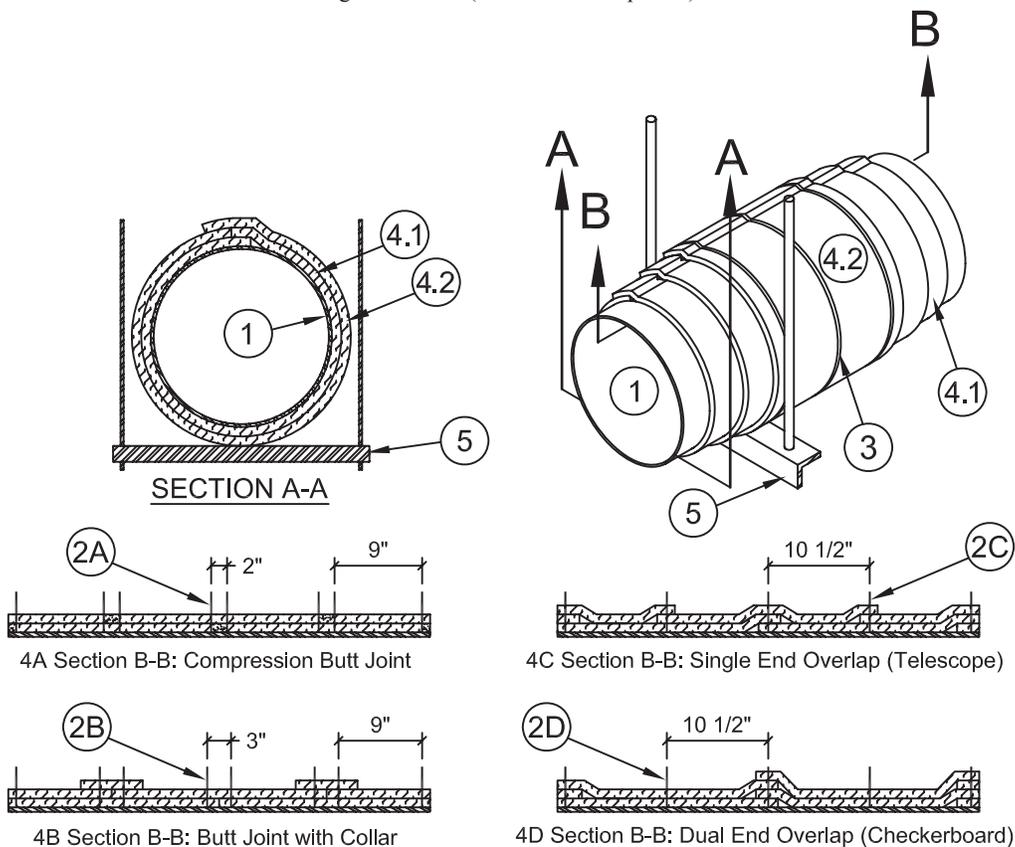

Figure 1
2. FASTENERS: Refer to Figure 1. Weld minimum 12 GA, 6-1/2-inch long, copper-coated, steel insulation pins or 12 GA, insulated cup head steel pins to the grease duct (Item 1). Match the following fastener method with corresponding insulation (Item 4) method.
INSULATION: Apply the non-combustible (ASTM E136) and durable (ASTM C518) insulation in two layers of nominal 1-1/2-inches thick, 6-pcf density blanket, made of calcium-, silica-, and magnesium-oxide (CSM) fibers, encapsulated with polypropylene-foil or aluminized polyester-foil scrim over the entire surface of the grease duct (Item 1). Apply the inner first layer (Figure 1, 4.1) in accord with one of the four methods (A, B, C, or D) that follow. Offset the second outer layer (Figure 1, 4.2) one half the width of the inner first layer (Figure 1, 4.1) so that the joints of the inner first layer (Figure 1, 4.1) are covered by and approximately in the center of the second outer layer (Figure 1, 4.2). Apply the second outer layer (Figure 1, 4.2) in accord with the same method selected for the first inner layer (Figure 1, 4.1). Use blanket, available in various widths, that is fully encapsulated or single faced with a polypropylene-foil or polyester-foil scrim. Expose a foil-faced side of insulation to view. Wrap one layer of insulation around the grease duct (Item 1) perimeter so that each terminating end of insulation overlaps onto the starting end of insulation a minimum of 3 inches at all transverse joints. Stagger the transverse overlap location so that no two consecutive adjacent overlaps align. Refer to section view A-A for transverse overlap section view. Cover all visually-exposed ends and edges of insulation with nominal 4-inch wide, pressure-sensitive, aluminum foil tape.